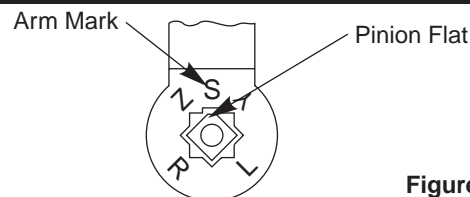

Figure 1
C. Prepare **two (2)** holes for 3/8" diameter sex nuts. Standard units are supplied with sex nuts and screws for 1-3/4" (44mm) thick door. Sex nuts and screws for other door thicknesses are available to order.
Step 5: Install main arm onto pinion shaft of unit at a 90° angle to the door frame. Align arm mark "S" with the flat corner of the pinion shaft square. (See Fig. 1, upper right.)